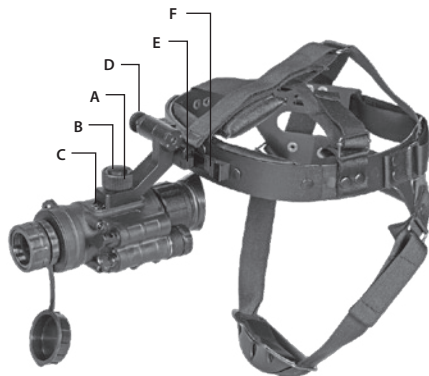

FIGURE 3-2. MOUNTING SIRIUS TO A GOGGLE KIT
2. Loosen the screw (A). While pushing down on the button (B), insert the Sirius rail into the guide (C) of the goggle kit bracket. Tighten the screw (A). See Figure 3-2; the unit is shown in the correct positioning for the right eye.
4. To adjust the equipment for greater comfort, loosen the screw (A) and move the unit along the guide (C).
5. The goggle kit has a flip-up mechanism. Push the button (D) of the goggle kit bracket and lift the unit up until it reaches its top position. The unit will automatically turn off when it reaches this position.
6. Push the same button (D) to lower the unit into the correct viewing position. Turn the unit back on to continue your session.
Figure 3-2 shows the Sirius in the correct position for the right eye. To readjust the unit for the other eye, remove the unit from the goggle kit bracket. Turn the unit around (180°) and mount it on the bracket through the rail on the second side. With the button (E) pushed, move the unit along the slide-rail (F) until the desired, most comfortable position is reached.